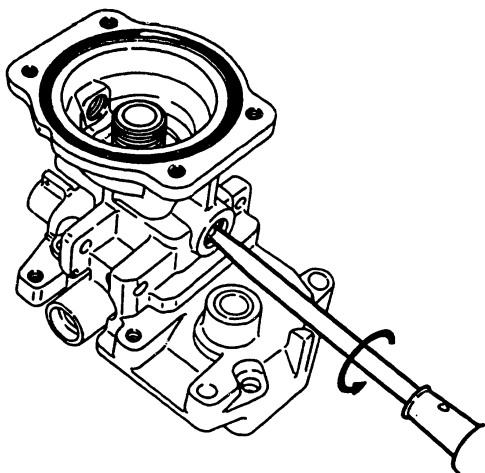

Fig. 69 Removing the screw
19. Remove the screw (67/35) fixing the bushing (67/37). (Fig. 69)